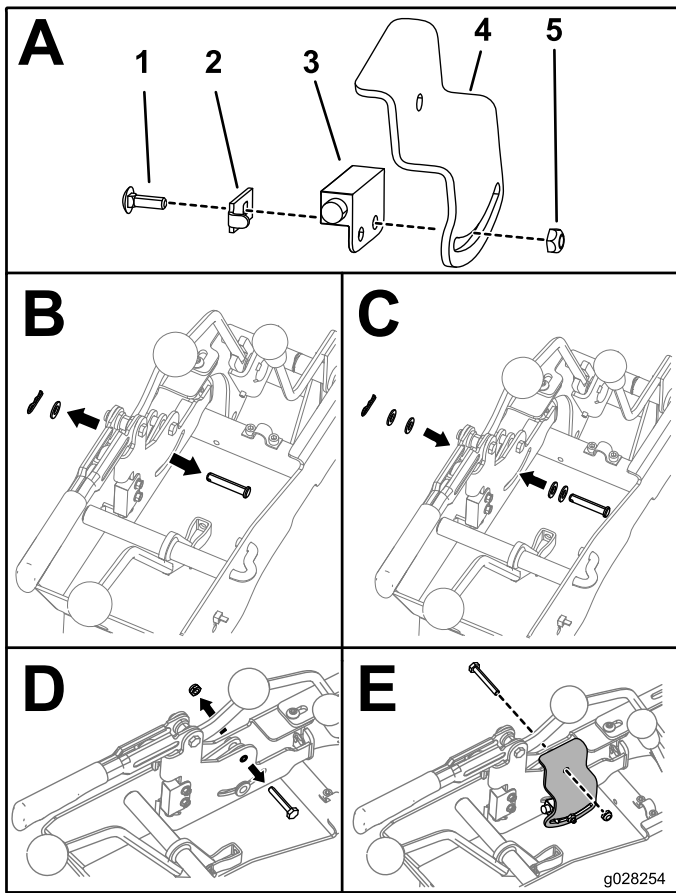

Figure 9
1. Loosely install the parking brake switch onto the bracket, using the plate, carriage bolt, and nut, as shown in Box A of Figure 9.
2. Remove the hairpin, clevis pin, and washer securing the parking brake cable to the bellcrank, as shown in Box B of Figure 9.
3. Place 2 washers on the clevis pin and slide it back into the previous position; Box C of Figure 9.
4. Place the washer previously removed as well as an additional washer onto the end of the clevis pin and secure the clevis pin with the hairpin; Box C of Figure 9.
5. Remove the bolt (1/4-20 x 1 1/2 inch) on the parking brake bellcrank as shown in Box D in Figure 9.
6. Insert the bolt (1 3/4 inch) with the head of the bolt to the right, slide the bracket with the switch onto the bolt, and secure the bolt with the nut previously removed; Box E in Figure 9.